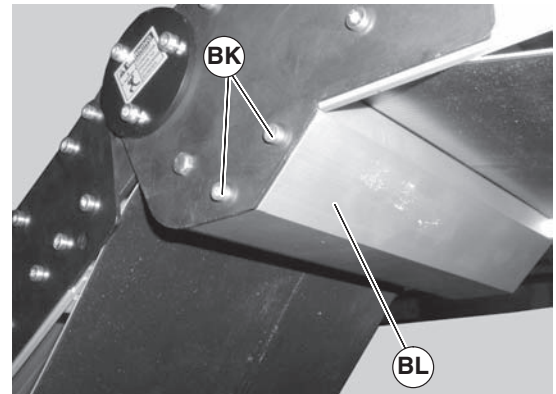

Figure 32
12. Remove screws (BK of (Figure 32, item) on both sides of knuckle and remove guard (BL).